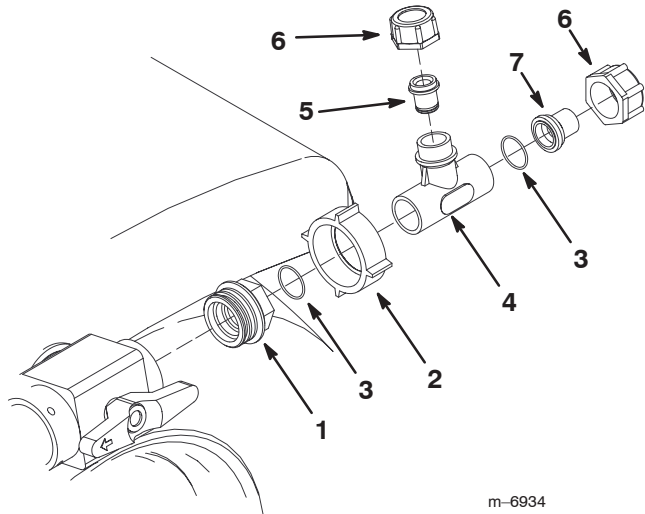

Figure 9
14. Connect the adapter to the valve using the large plastic nut (Fig. 9).
15. Connect a large O-ring and tee to the adapter (Fig. 9).
16. Connect the reducer assembly to the top of the tee (Fig. 9) using a plastic nut (1 inch).
17. Connect a large O-ring and the reducer nipple to the tee (Fig. 9) using a plastic nut (1 inch).